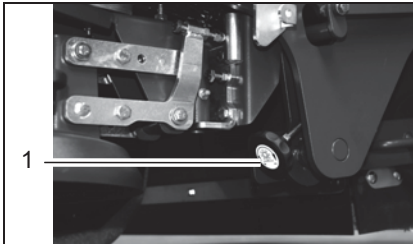

Fig. 42
4. Turn the adjusting device (Fig. 42/1) on both sides of the vehicle as described below: